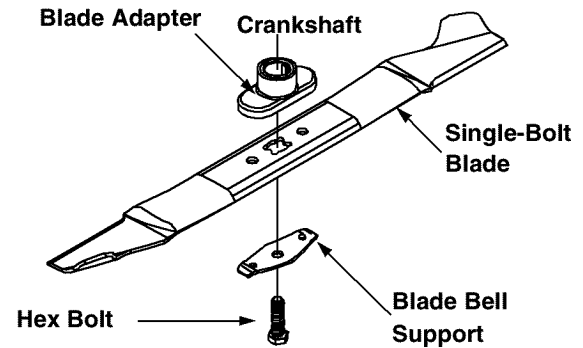

Figure 15
- Remove the bolt and blade bell support which hold the blade and adapter to the engine crankshaft. See Figure 15.
- Install the blade adapter on the crankshaft with the “star” away from the engine. See Figure 15.
- Insert the hex bolt through the blade assembly. Figure 15 shows the correct order of assembly.